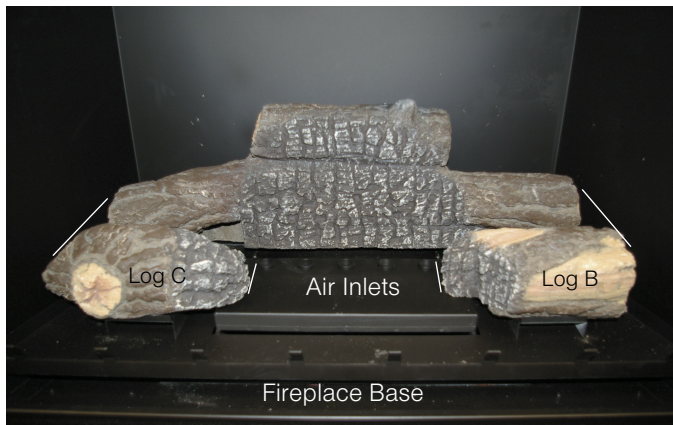

Figure 30b. Left front Log, (Log C) and Right front Log, (Log B).
Step 3. Place the bottom Right log (Log B) and bottom Left Log, (Log C) as shown in figure 30b.